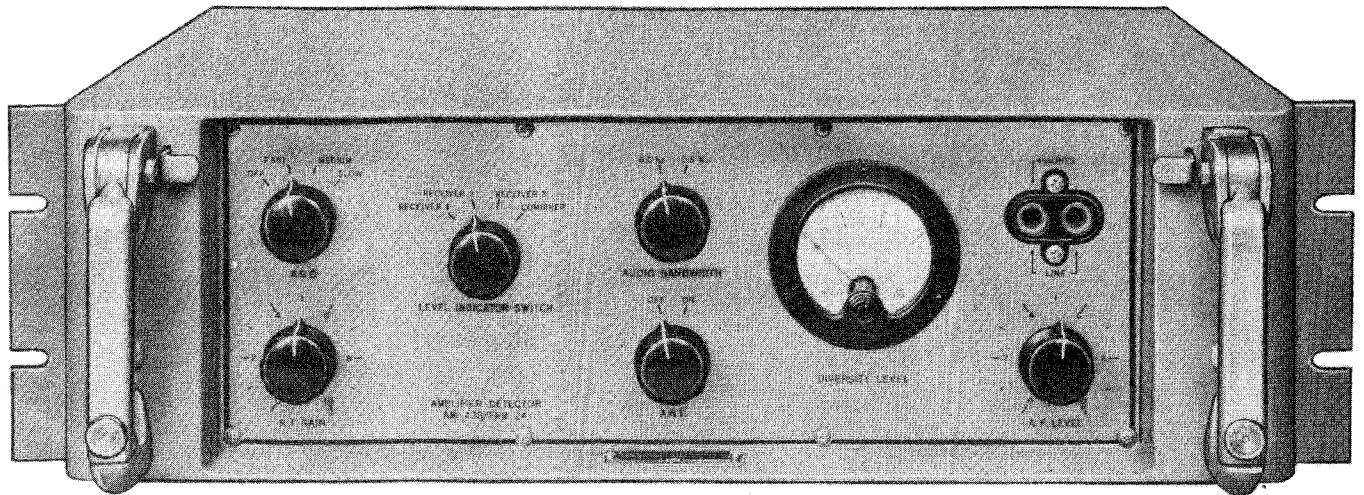

Figure 1-17. Amplifier-Detector AM-438/FRR-24
(9) AMPLIFIER-DETECTOR AM-438/FRR-24. (See Figures 1-17 and 1-18).—The Amplifier-Detector AM-438/FRR-24 is an eleven-tube triple detector unit designed to provide a means of combining or selecting one of the outputs of three receivers operating in diversity. The unit also provides a keyed D.C. output and a source of A.G.C. voltage. The electrical circuits consist of three separate 50-kilocycle input I.F. stages. Each I.F. stage has its own dual low-pass audio bandwidth filter and detector circuit. Combining or selecting of the diversity signal is accomplished by feeding the outputs of each of the three detectors through the three switching diodes into a common